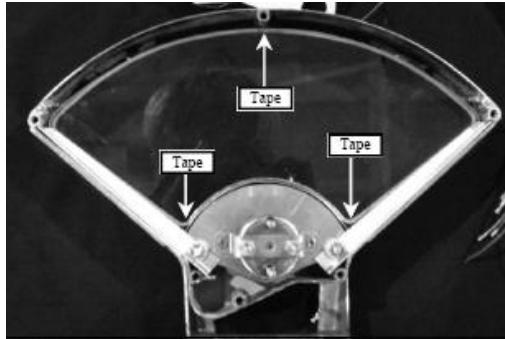

Figure 8
Step 5: Use a very small amount of trim tape (supplied) around bezel and rim, then place large glass into the housing in order to cushion glass and prevent glass rattle. (Figure 8)
Step 6: Place gear selector movement over stock bracket. (Figure 8)